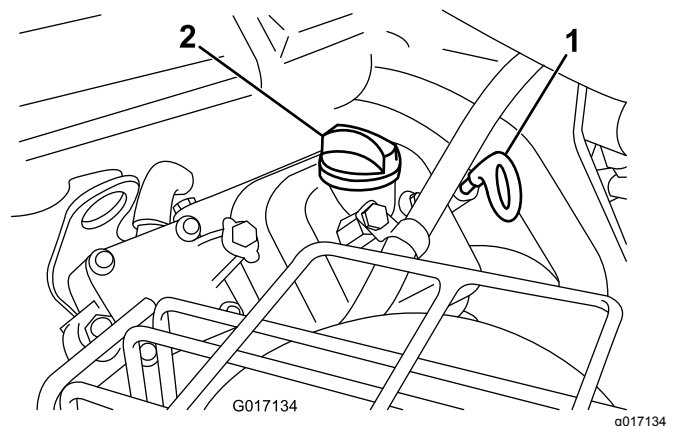

Figure 20
2. Pull the dipstick out and wipe it with a clean rag. Push the dipstick into the tube and make sure it is seated fully (Figure 20).